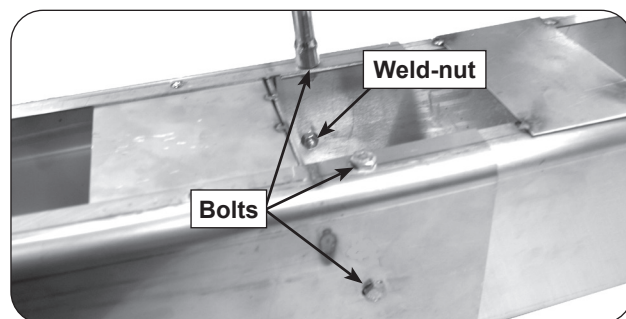

Fig. 17-2 Fasten extension to post
3. Reinstall the bolts from outside the joined post and extension, insert one of the 1/4" X 20-5/8" bolts (supplied) into each of the five (5) bolt holes and tighten each using a 7/16" socket driver or wrench (see Fig. 17-2).